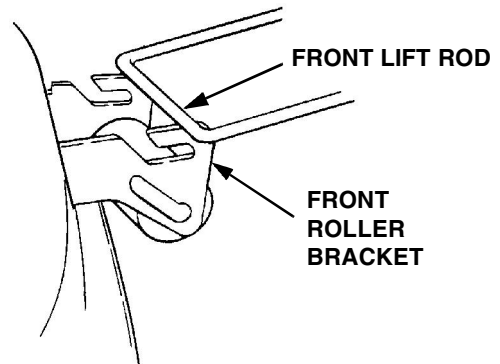

Figure 6-16
8. Raise the tractor implement lift handle to its highest setting. Roll the mower deck forward until the front lift rod slides up and out of the openings of both front roller bracket slots. Manually lift the rod out of the slots if necessary (Refer to Figure 6-16).
9. Raise the front lift rod upward and slide the mower deck rearward. Lower the front lift rod so it rests on the front roller bracket of the deck, forward of the slots (See Figure 6-16).